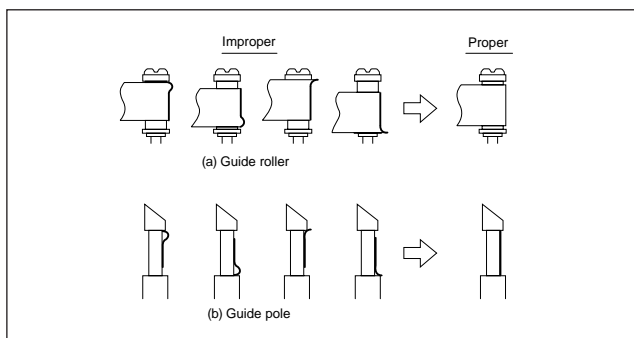

Fig. 2-3-1d
- (7) Unload the cassette tape once, play back the alignment tape (A1) again and confirm the V.PB FM waveform.
- (8) After adjustment, confirm that the tape wrinkling does not occur at the roller upper or lower limits. (See Fig. 2-3-1d.)
**[Perform adjustment step (9) only for the models equipped with SP mode and EP (or LP) mode.]**
- (9) Repeat steps (1) to (8) by using the alignment tape (A2).